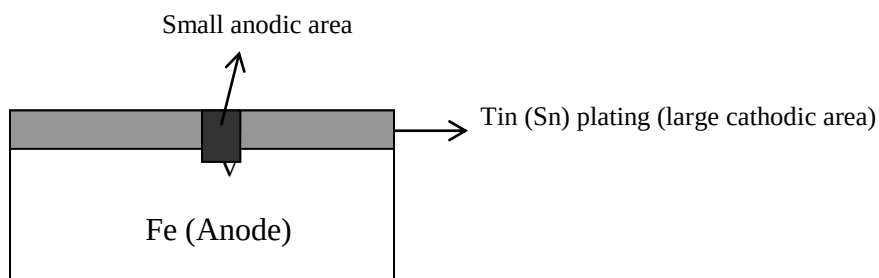
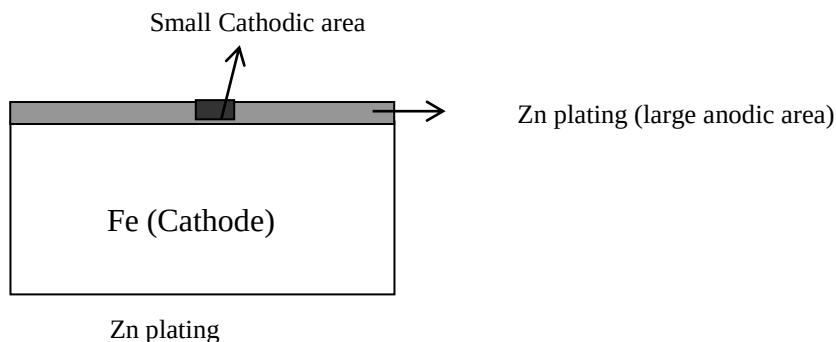

Fig. 2.5: Rapid corrosion, if anodic area is less compare to cathodic area
Fig. 2.6: Slow corrosion, if anodic area is more compare to cathodic area
(1) pH of the medium: The pH of the solution also decides the type of cathodic reaction and thereby influencing the corrosion rate. In general corrosion rate is high at high acidic medium than alkaline medium. If pH is greater than 10, the rate of corrosion of metals stops due to the formation of a protective coating of metal hydroxide. Between pH 8-3 presence of oxygen is essential for corrosion. If pH is less than 3, metals under go severe corrosion even in absence of oxygen.
(2) Temperature: usually the rate of corrosion reaction accelerated with the rise in temperature. The Corrosion rate (redox reaction) also increases as the temperature increases and also the diffusion of ions also increases. Because increase in temperature increases the conductance of the corrosion medium, also contribute to the increase in corrosion rate. In some cases, temperature decreases the passivity, which again metals lead to increase in corrosion rate.
(3) Relative area of anode and cathode: The rate of corrosion is greatly influenced by the relative size of anodic and cathodic areas. Smaller the anodic area and larger the cathodic area faster is the rate of corrosion (Fig. 2.5). Because the demand for electrons by a large cathodic area can be met by smaller anodic areas only by undergoing corrosion more briskly at smaller anodic area. Smaller the cathodic area and larger the anodic area the rate of corrosion is slow (Fig. 2.6).